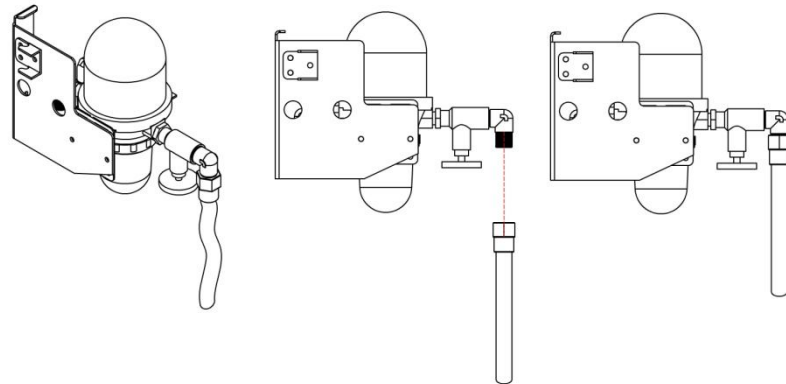

Fig. 3.5.1
- Connect the fuel line to the 3/8" inlet fitting as shown (Fig. 3.5.1)